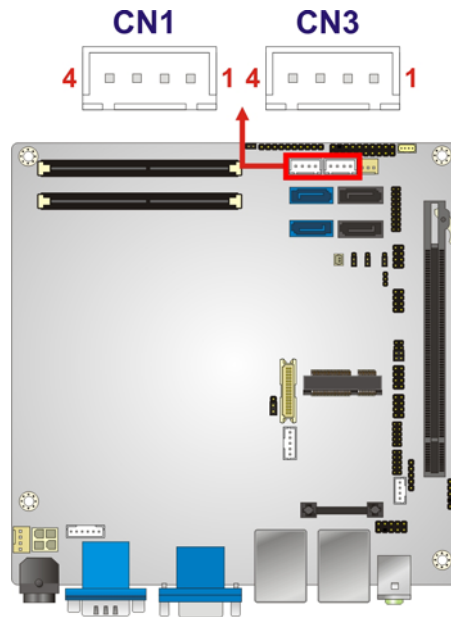

Figure 3-16: SATA Power Connector Location
- CN Location:** See **Figure 3-16**